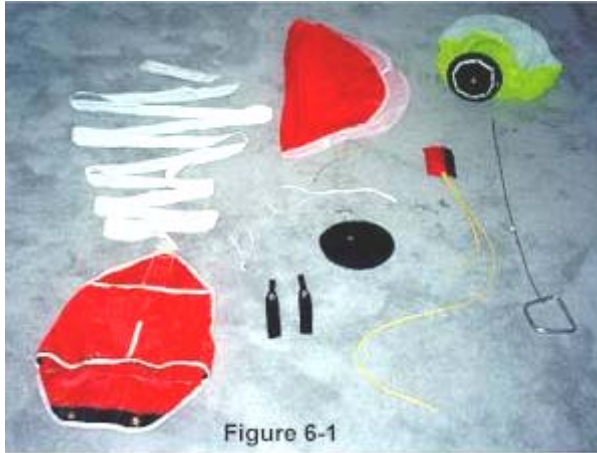

Figure 6-1
Step 1 Ensure all necessary parts are available prior to proceeding as depicted in *Figure 6-1*.